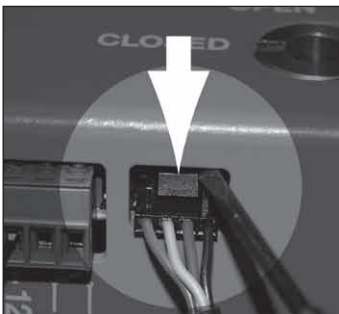

Figure 4
**Note:** It is not necessary to remove the cover of the Control Unit to install the interconnecting cables. To remove an interlocking cable, use the supplied Pocket Screwdriver to depress the tab on the cable while pulling cable from its socket. **Figure 4**